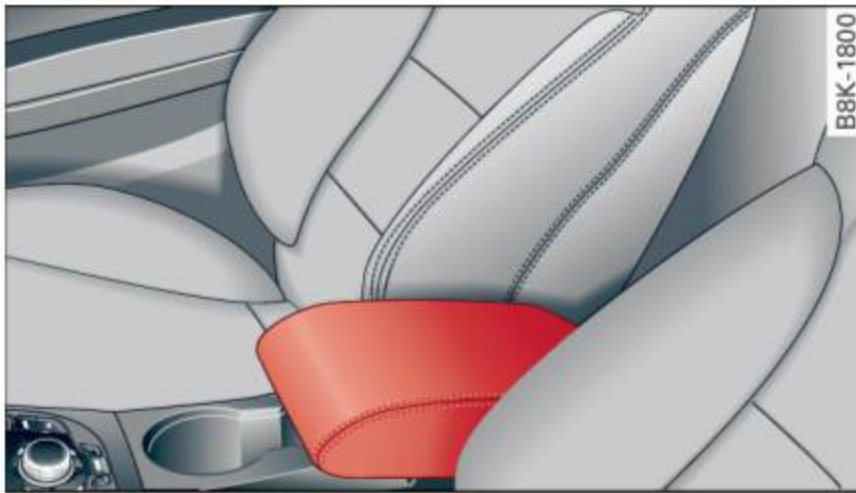

Fig. 54 Armrest between the driver's/front passenger's seats.
- ▶ To adjust the angle, raise the armrest from the starting position ⇒ *fig. 54* detent by detent.